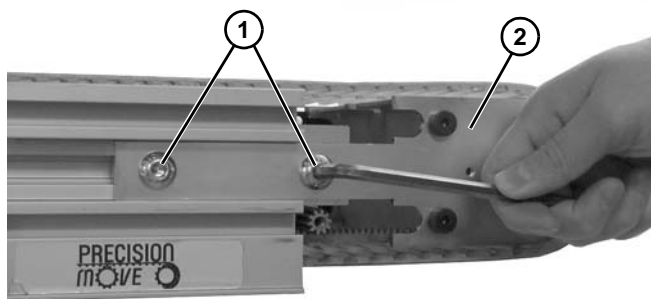

Figure 26
12. On both sides of the tension end, loosen the two tail clamp bolts (**Figure 26, item 1**), and push head plate assembly (**Figure 26, item 2**) inward.